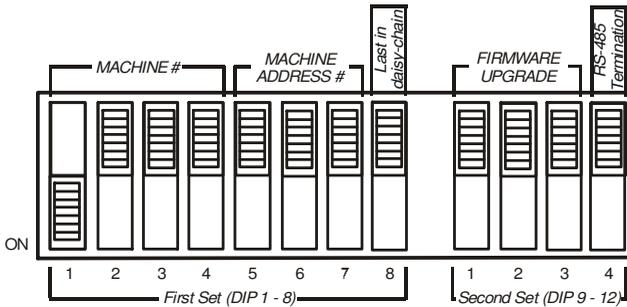

Figure 9: SETUP Dipswitches (Factory Default for Stand-Alone MACHINE # 1)
Configure the **VP-81xl**, **VP-161xl**, and/or **VP-321xl** unit by setting the 12 SETUP dipswitches (item 13 on the rear panel), as Figure 9 and Table 7 define: